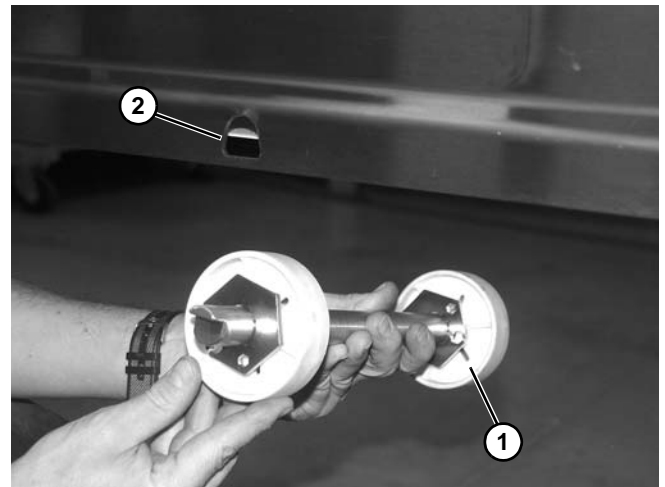

Figure 202
1. Remove belt return assembly (Figure 202, item 1) from slotted holes (Figure 202, item 2) on each side of conveyor frame.